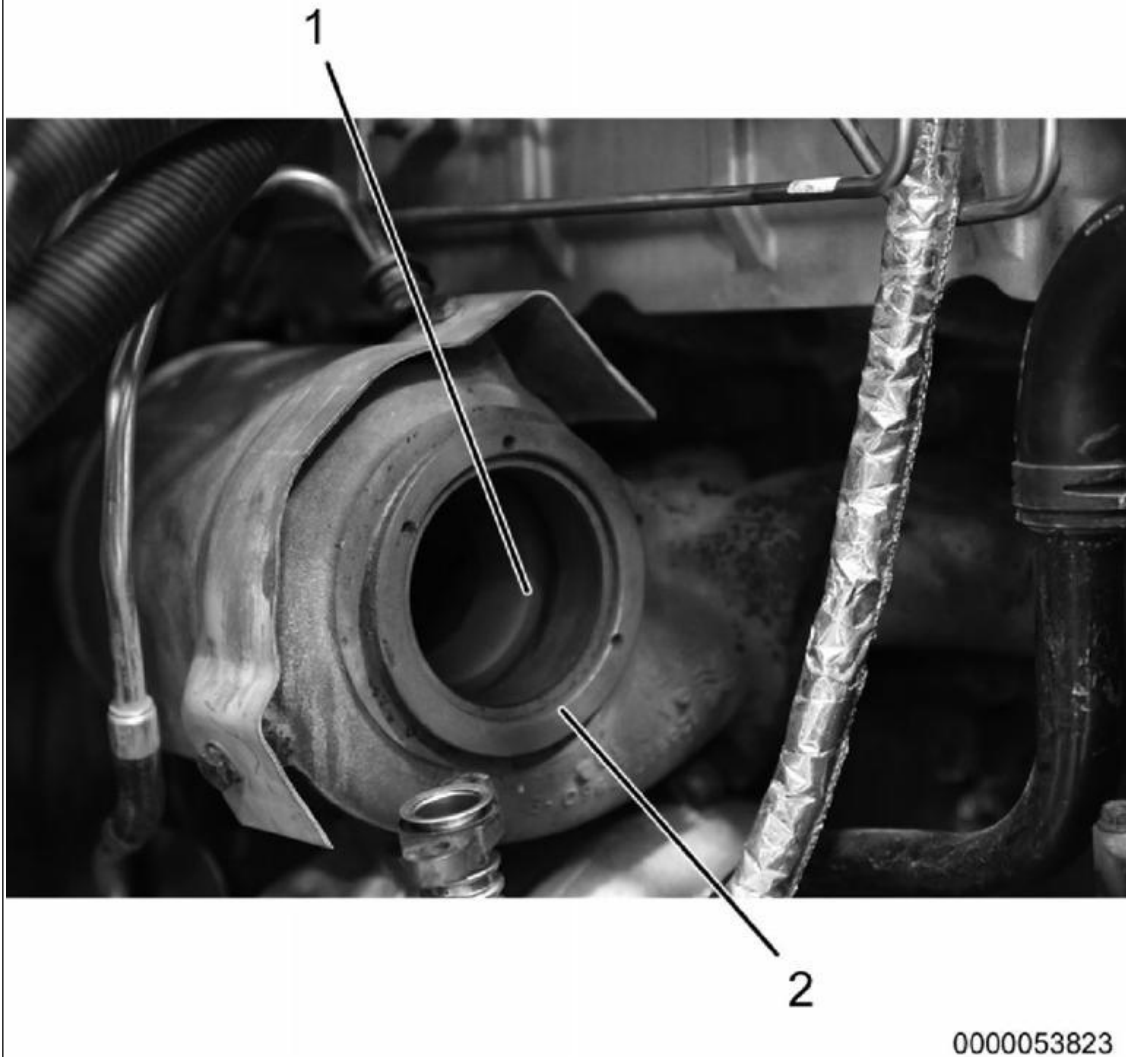

Figure 5: HP Turbocharger Turbine Housing.
1. Using suitable solvent and clean emery cloth, clean inside HP turbocharger turbine housing (Figure 5, Item 1) and exterior flange (Figure 5, Item 2).